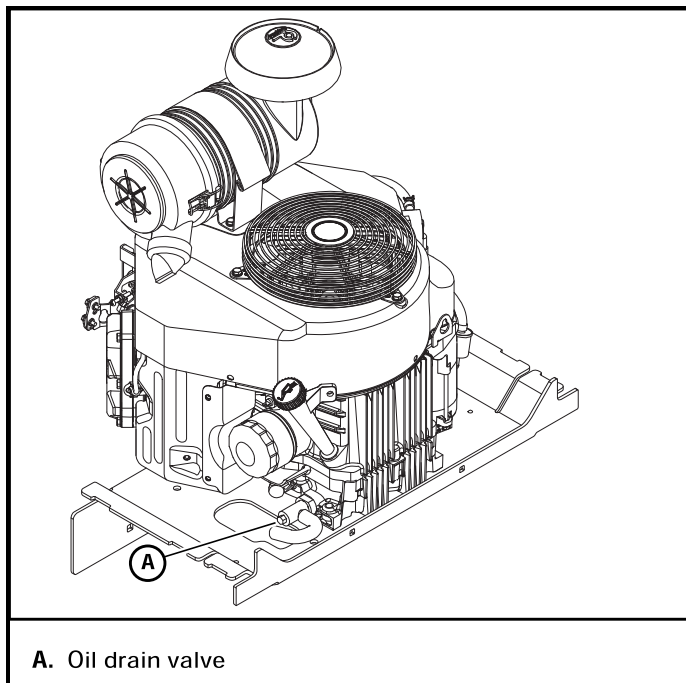

Figure 4-8
1. Locate the oil drain valve on the engine. Figure 4-8